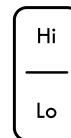

Fig. 5
4. To set power level press **Hi** or **Lo** keypad and if needed toggle the **Hi** or **Lo** keypads to adjust to the desired power level setting. Each touch of the **Hi** or **Lo** keypad will decrease or increase the power level by 1/2 from 9.5 through 3.0. Simmer power levels between 3.0 and 1.2 will decrease or increase by .2 increments. **Hi** (Fig. 5) is the highest power level. **Lo** (Fig. 6) is the lowest power level available.